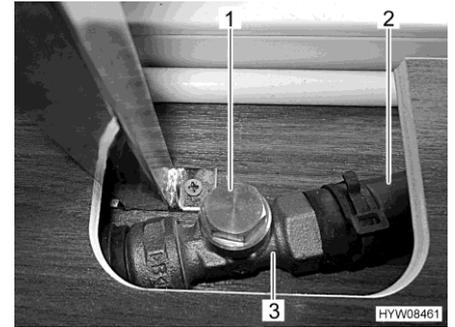

Fig. 164 Throttle (open)
- Touch the bypass line (Fig. 164,2) behind the throttle (Fig. 164,3). The pipe must be warm to the touch.